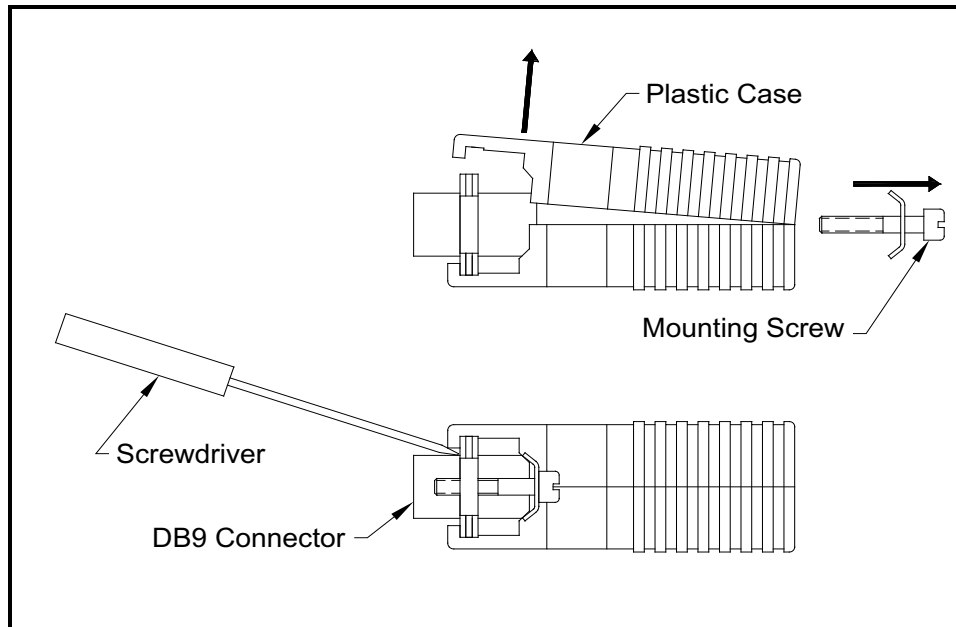

Figure 10: Opening the Converter Case
5. Use a small screwdriver to pry open the **plastic case** of the serial interface converter, as shown in Figure 10 on page 75.